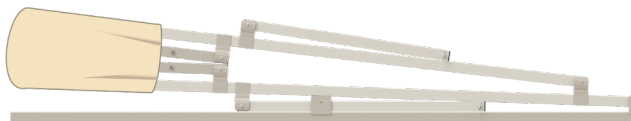

Fig.2
1. For ease of removal, retract the manual bimini into its fully closed position (Fig.2).